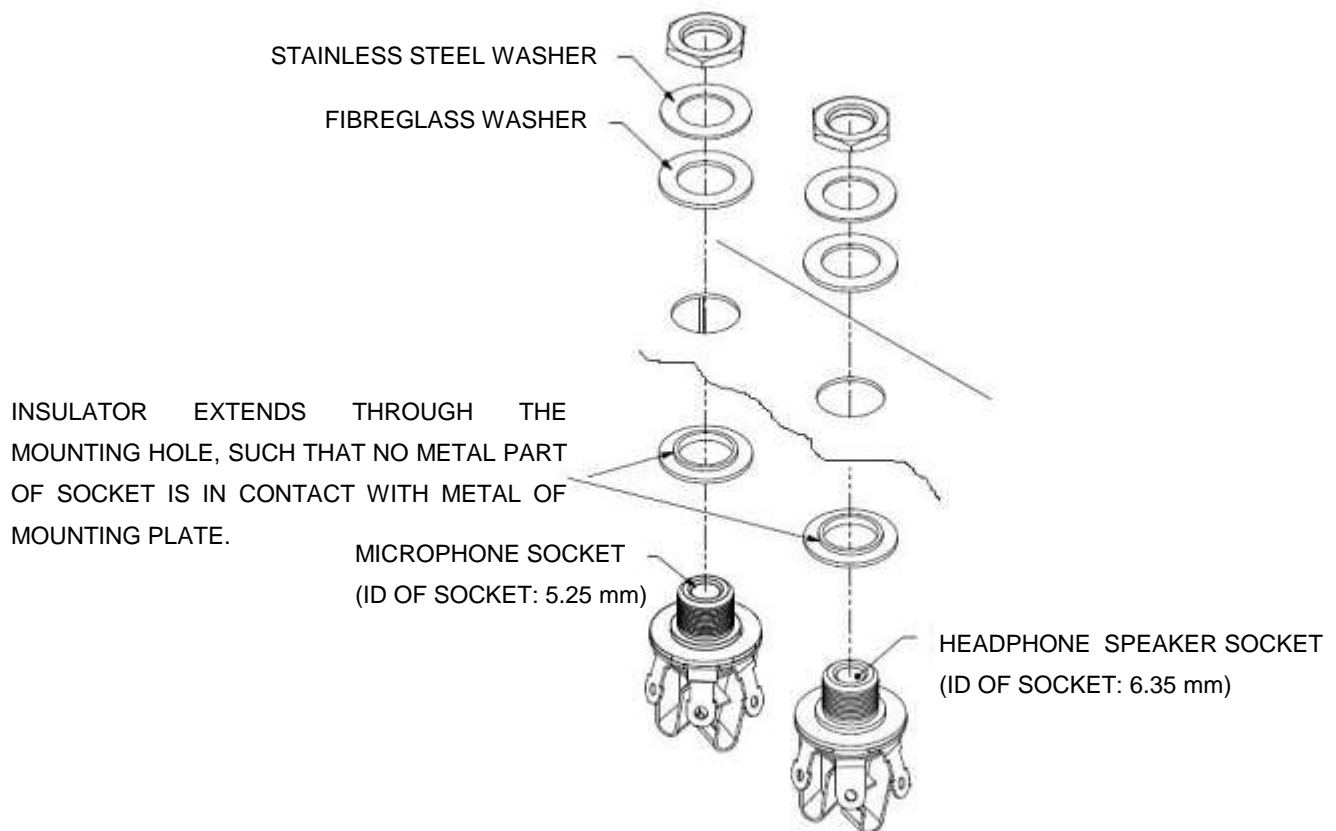

Figure 61: Headphone socket installation.
- Observe the correct washer / insulator placement (refer to Figure 61).